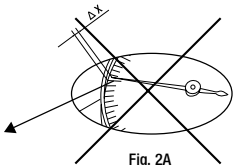
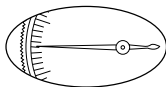

Fig. 2A
Fig. 2B
**Parallax Error:** Be careful when measuring to avoid the parallax error ( $\Delta x$ ). This error occurs when the observation point is not perpendicular to the display (fig. 2A). Take the reading perpendicularly to the dial display (3) (fig. 2B).